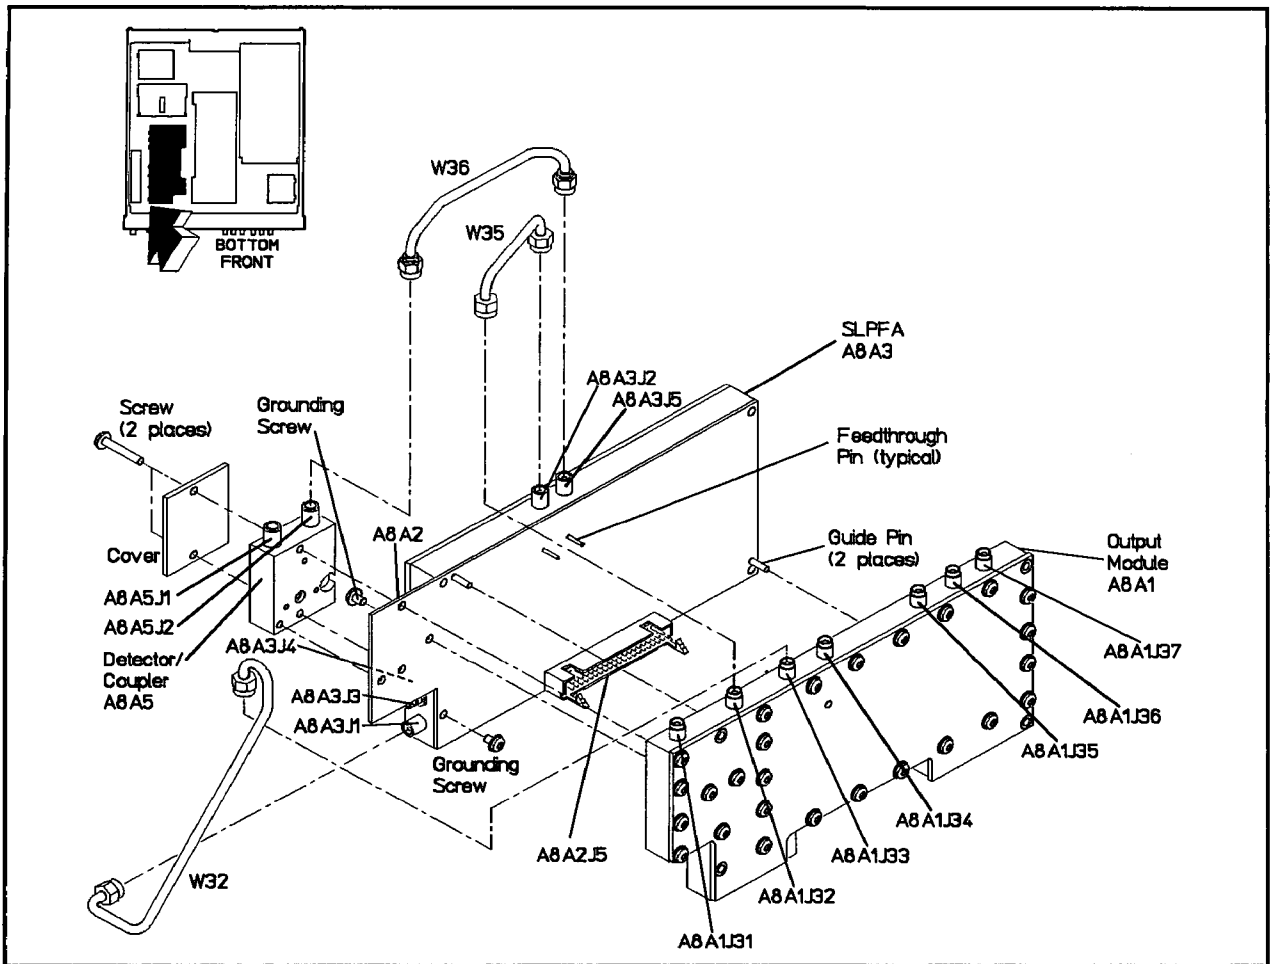

Figure 5-35. Output Module, SLPFA Module, and Coupler/Detector Separation
1. Refer to "Semi-Rigid Coaxial Cables" and Figure 5-35. Then, using a 5/16 in open end wrench, remove W36 connecting the SLPFA module 0.01–1 GHz IN to the coupler/detector.
2. With the SLPFA module facing downwards, use a size 10 TORX® screwdriver to remove the single TORX® screw on the exposed portion of the printed circuit board, A8A3. See Figure 5-35.
4. Using a size 10 TORX® screwdriver, remove the two screws from the coupler/detector and metal cover. See Figure 5-35.
1. Refer to "Semi-Rigid Coaxial Cables" and Figure 5-35. Then, using a 5/16 in open end wrench, remove the following semi-rigid coaxial cables:
2. With a size 10 TORX® screwdriver, remove the single TORX® screw on the exposed portion of the printed circuit board, A8A3. See Figure 5-35.
7. Refer to "Semi-Rigid Coaxial Cables" and Figure 5-35. Then, connect and hand tighten the following Semi-Rigid Coaxial Cables: